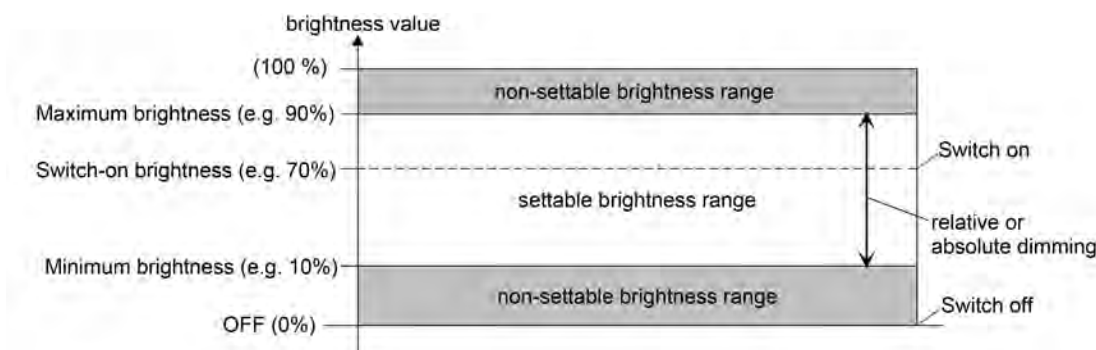

Figure 12: Example of a brightness range with minimum brightness
- Definition of the lower brightness limit with minimum brightness (figure 12):
- i** In the "speed controller" operating mode for the "1-gang" device variant - similar to the description of the brightness values for lighting control in this chapter - the minimum speed can be configured in the ETS (figure 12). The alternative configuration of a basic speed is not provided here for technical reasons. The maximum speed cannot be adjusted by means of a parameter either. It is predefined to 100 %. The cutting-in speed is unalterably preselected to a maximum speed (100 %).